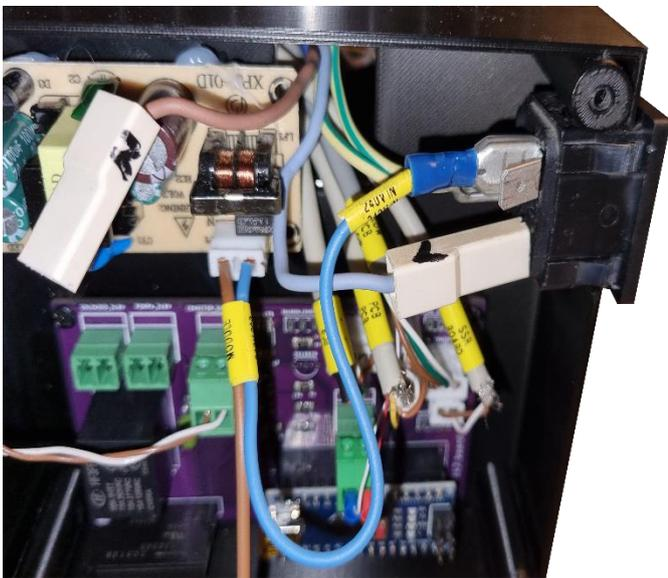
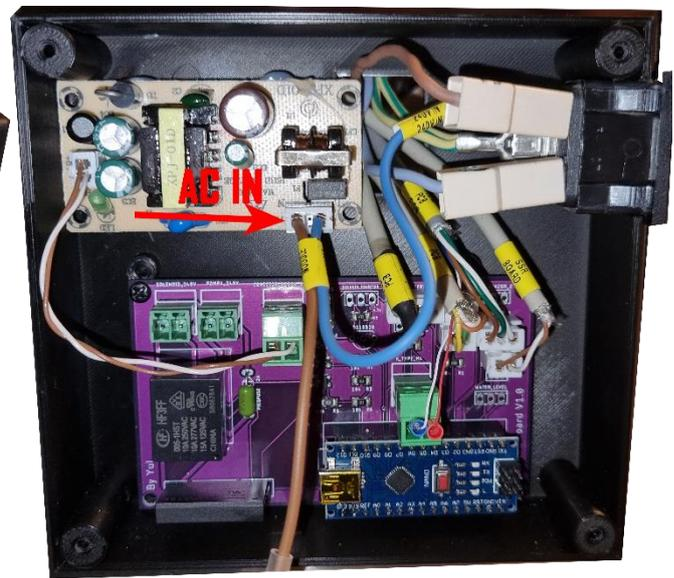

Fig. 10.2
Fig. 10.3
- Insert the 240V PCB MODULE connector in the power board and "240V IN" split connector to the original power module (fig. 10.2), then connect the remaining original brown wire in the spliced connector on original power module (fig. 10.3)